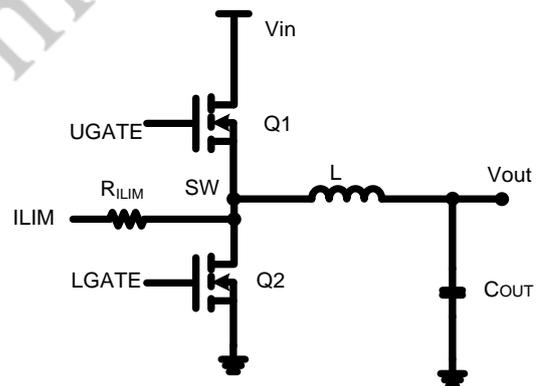
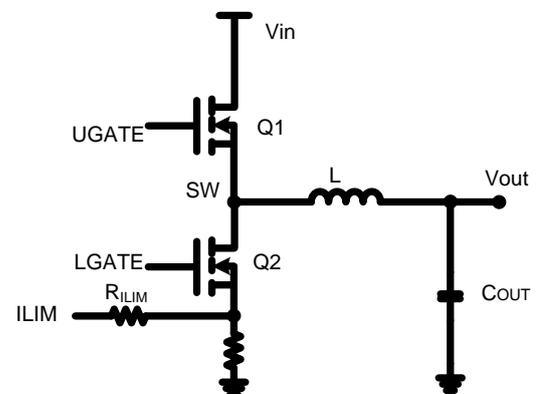

Figure15. MOSFET $R_{DS(on)}$ Current Sensing
Figure16. Shunt Resistor Current Sensing
JWH6346 has a cycle-by-cycle overcurrent limiting control. A valley current limit is designed in the JWH6346 so that only when output current drops below the valley current limit can the high-side MOSFET be turned on. To provide both good accuracy and cost effective solution, the JWH6346 supports temperature compensated MOSFET $R_{DS(on)}$ sensing mode and shunt resistor sensing mode, and it detects the appropriate mode at start-up and sets the source current amplitude and temperature coefficient (TC) accordingly. Figure15 portrays the $R_{DS(on)}$ sensing mode which resistor R_{ILIM} is tied to SW to use the $R_{DS(on)}$ of the low-side MOSFET as a sensing element (termed $R_{DS(on)}$ mode) and Figure16 shows the shunt resistor sensing mode which R_{ILIM} is tied to a shunt resistor connected at the source of the low-side MOSFET (termed R_{SENSE} mode).